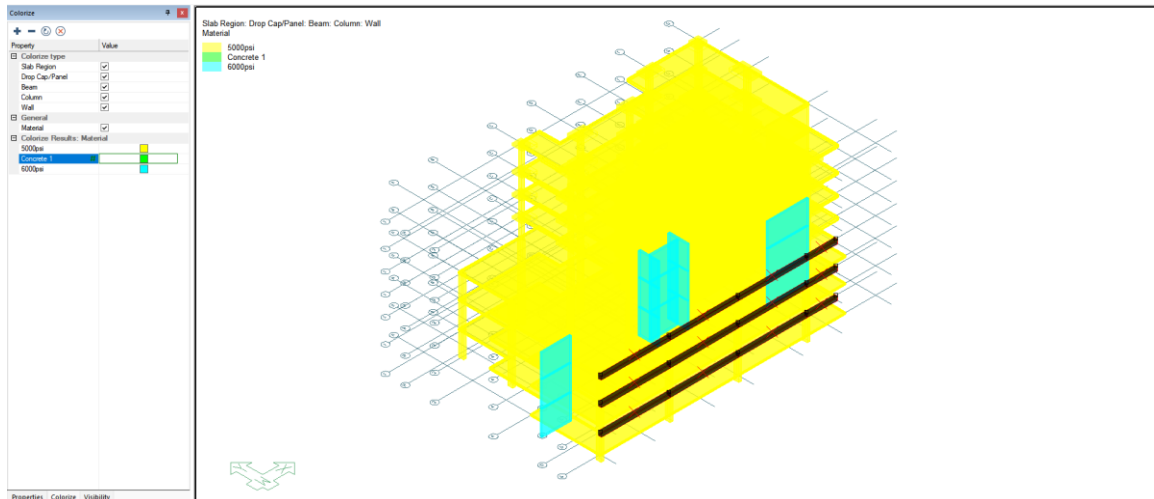

FIGURE 7-4
- We can see the beams are assigned to *Concrete 1* when they should be assigned to the *5000psi* material. In the *Visibility Grid* click on **Concrete 1** in the *Colorize Results: Material* section. This will select the components assigned to the *Concrete 1* material as shown in **FIGURE 7-4**.